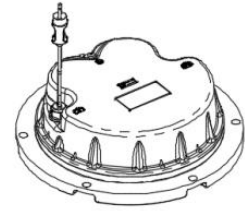

Figure 4-19
- Take out the inner cover, make the pin aim at the pin hole and connect the upper cover and inner cover with the screw (see Figure 4-19).